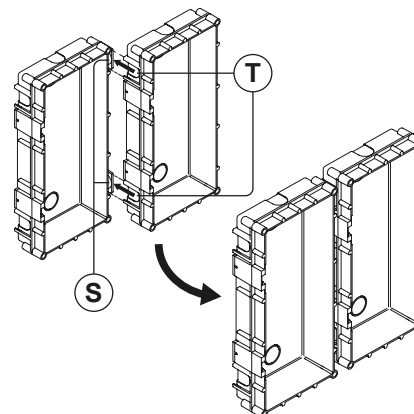

Fig. 74
2. Next take the 2nd flush box module and align the side slots (T) (on the 2nd flush box) with the side clips (S) from the 1st flush box. Following the guide arrows push down on the 2nd flush box so that it clips into position, as shown in **Fig.74**.